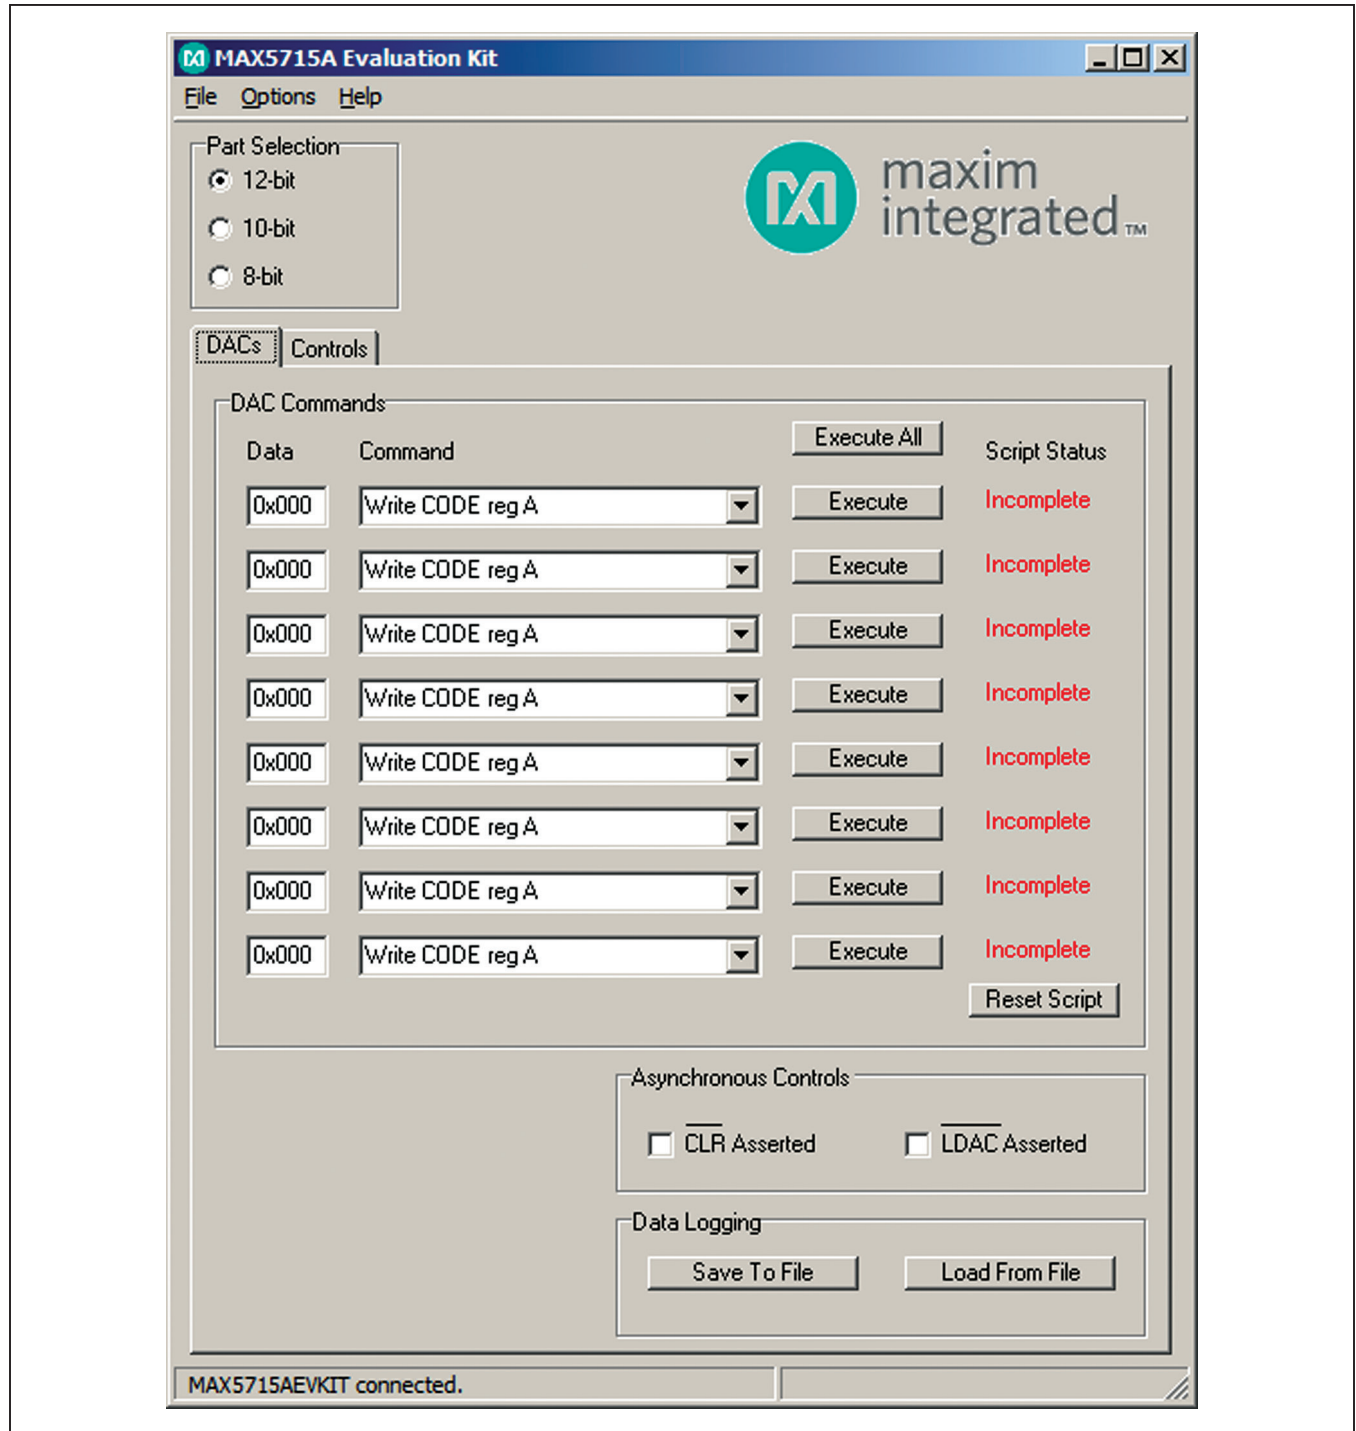
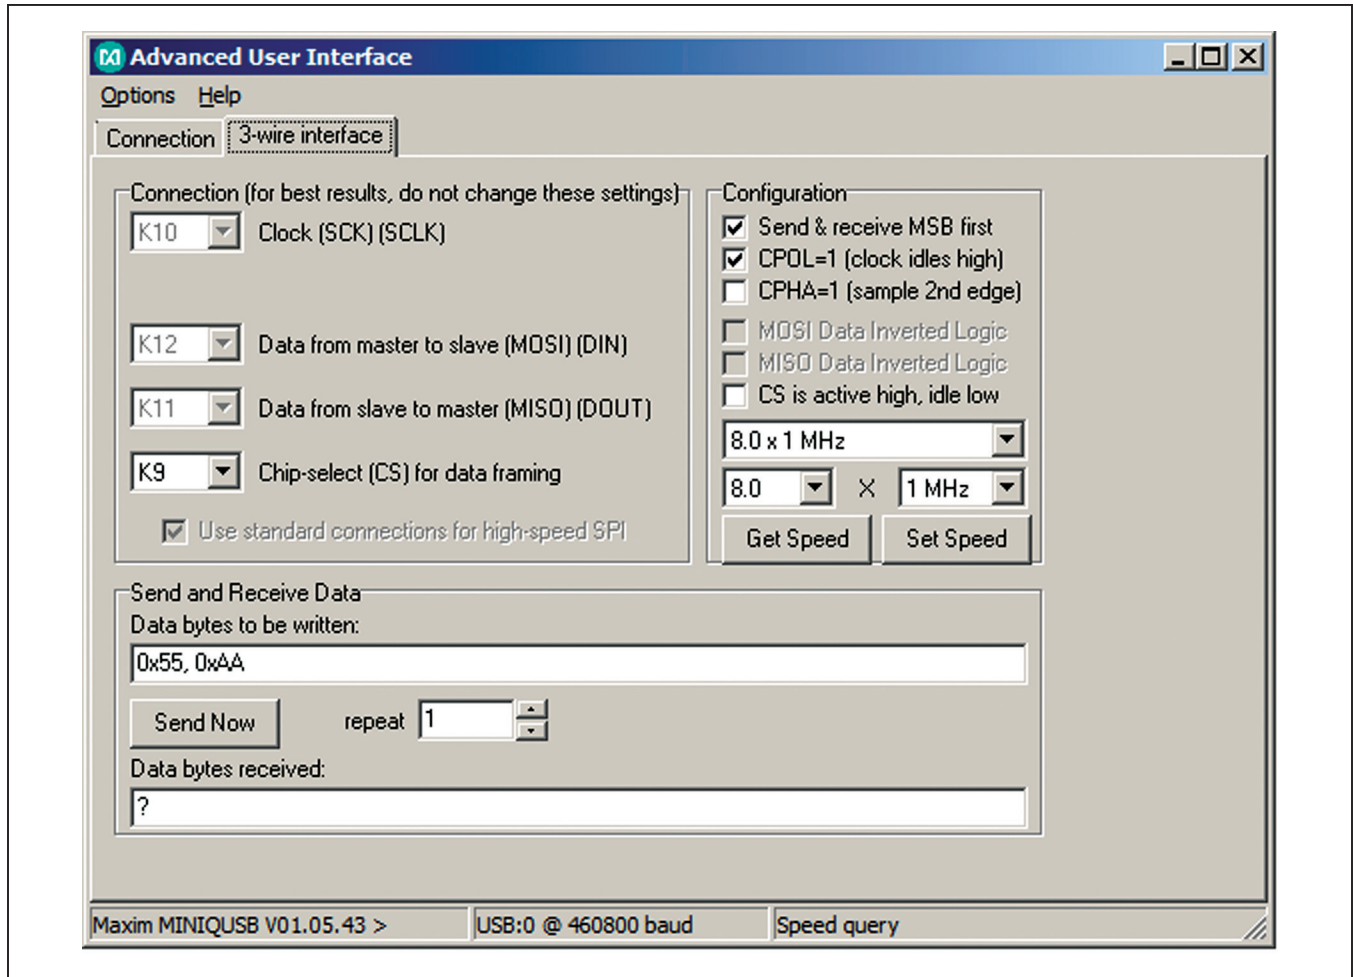

Figure 1. MAX5715A EV Kit Software Main Window (DACs Tab)
Figure 3. Advanced User Interface (3-Wire Interface Tab)
- 5) Start the EV kit software by opening its icon in the **Start | Programs** menu. The EV kit software main window appears, as shown in Figure 1.
Enter the desired **Data** on the left and select the appropriate **Command** from the drop-down list (Figure 1). Pressing the **Execute** button writes to the CODE and/or DAC registers and the **Script Status** changes from **Incomplete** to **Complete**. Refer to the MAX5713/MAX5714/MAX5715A IC data sheet for a list of possible commands. If a sequence of commands needs to be performed, adjust all **Data** edit boxes and **Commands** drop-down lists accordingly, and press the **Execute All** button. To reset the **Script Status** to **Incomplete**, press the **Reset Script** button.
In the **Asynchronous Controls** group box (Figure 1), a checked **CLR Asserted** checkbox drives the $\overline{\text{CLR}}$ pin of the device low, which clears the content of both CODE and DAC registers. An unchecked **CLR Asserted** checkbox drives the $\overline{\text{CLR}}$ pin of the device high, which allows the user to write new commands again.
There are two methods for communicating with the device. The first is through the main window shown in Figure 1. The second is through the **Advanced User Interface** window shown in Figure 3. The **Advanced User Interface** window becomes available by selecting the **Options | Interface (Advanced User)** menu item and allows execution of serial commands manually.